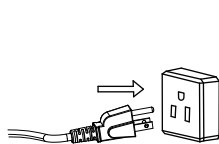
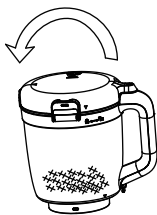
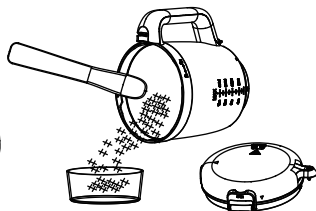

Fig.19
Fig.20
Fig.21
After the selected function is complete, unplug the product (Fig.19), turn the cup lid counterclockwise to open it (Fig.20), then pour the food into a container (Fig.21).
1. Place the blending cup flat. Insert your left hand into the blending cup and hold the blending blade head (see Fig.20).
2. With your right hand, grasp the rotating lid and unscrew it counter-clockwise (see Fig.21).